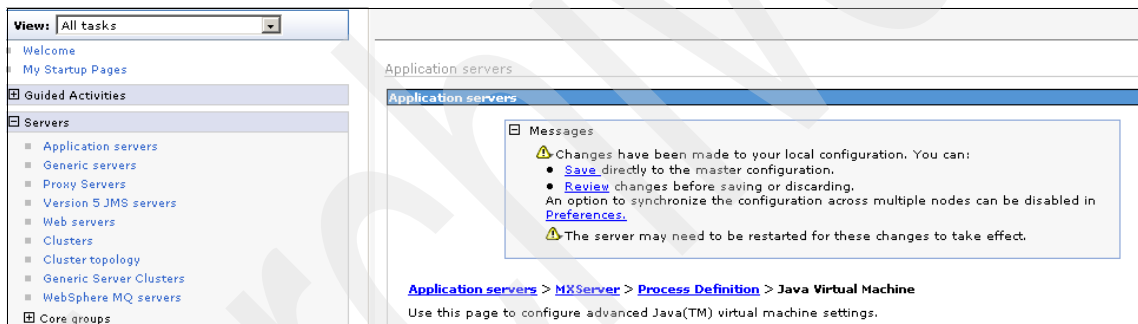

Figure A-5 Save heap size definition
5. Click **Save** in the **Messages** panel (see Figure A-5).